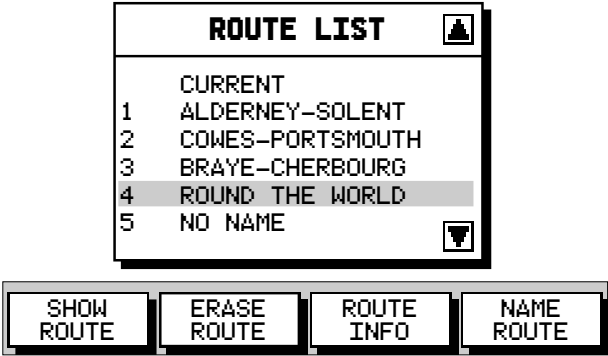

Figure 3-32: Route List and Soft Keys
The Route List is displayed with the selected route highlighted as shown in *Figure 3-32*.
1. From chartplotter mode, press the ROUTE soft key, followed by MORE, then ROUTE LIST. The Route List is displayed with the selected route highlighted, see *Figure 3-32*.
1. Press the ROUTE soft key, followed by MORE, then press ROUTE LIST. The Route List is displayed. The selected route is highlighted, see *Figure 3-32*.